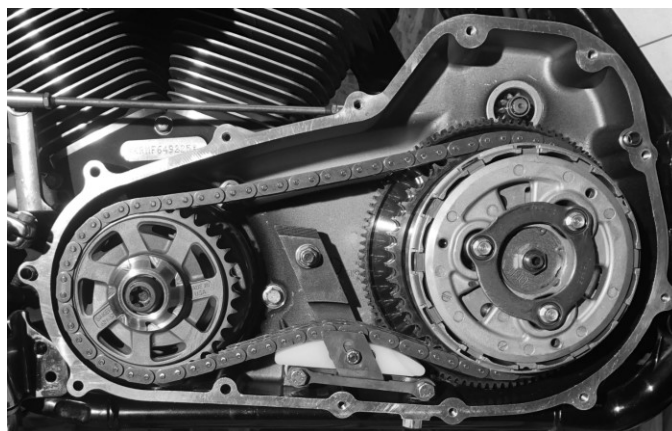

Figure 12, Installed BAKER Compensator Sprocket
- 5) Install the primary chain, clean and apply some red Loctite® to the compensator bolt (10500031) and clutch nut threads. Using a primary locking tool between the sprockets, torque the clutch nut to factory specifications following your service manual. Torque the compensator bolt (10500031) to 100ft-lbs, then back off (loosen) a half turn then re-torque to 175ft-lbs for final torque. A properly installed BAKER Compensator Sprocket looks like that shown in Figure 12.